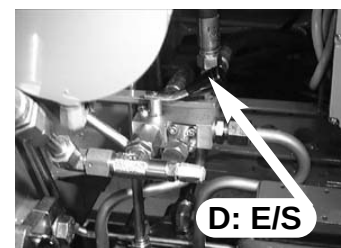

fig. 20b
- Position lever **D** of oil diverter crane-outriggers (E/S) on E/S. Fig. 20b
- Position lever **D** of oil diverter crane-outriggers ( - **E/S**) on **E/S**. Fig. 20b